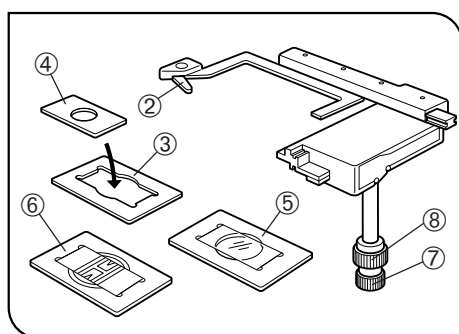

Fig. 7
1. When using a 96-well or 24-well micro-titer plate, extend the specimen holder ② to directly hold the micro-titer plate. (Fig. 7)
- Terasaki holder ③ (AB4488): For Terasaki plate, 35 mm petri dish holder ④ or 65 mm petri dish.
- Slide glass holder ⑤ (AB4489): For slide glass, 54 mm petri dish.
- Blood cell test plate holder IX2-BCTP ⑥ (optional): For a blood cell test plate holder or other calculating chamber for bacteria and eosinophil with mounting section dimensions corresponding to $H 77^{+0.3}_0 \times V 35^{+0.3}_0 \times D 2$ mm, or for a 60mm petri dish.
3. The specimen can be moved to the desired position by turning the X-axis knob ⑦ and Y-axis knob ⑧ (Stroke: 120 mm in X-axis direction, 78 mm in Y-axis direction).